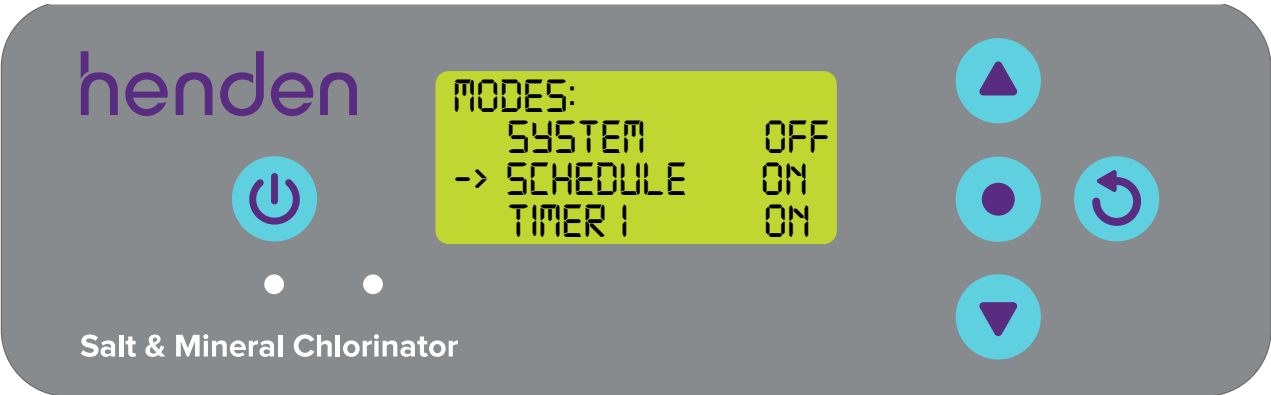

Figure 9.25
- As a reminder, to correctly operate schedule mode, there must be at least one timer set and turned on (refer Section 9.3 and Figure 9.25).